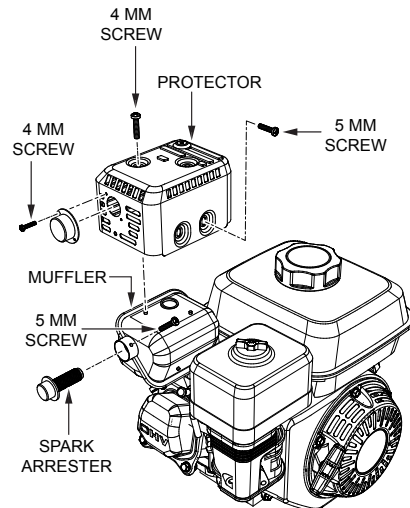

Figure 35. Spark Arrester Removal
1. Remove the 4 mm screw (3) from the exhaust deflector, then remove the deflector. See (Figure 35).
2. Remove the 5 mm screw (4) from the muffler protector, then remove the muffler protector.